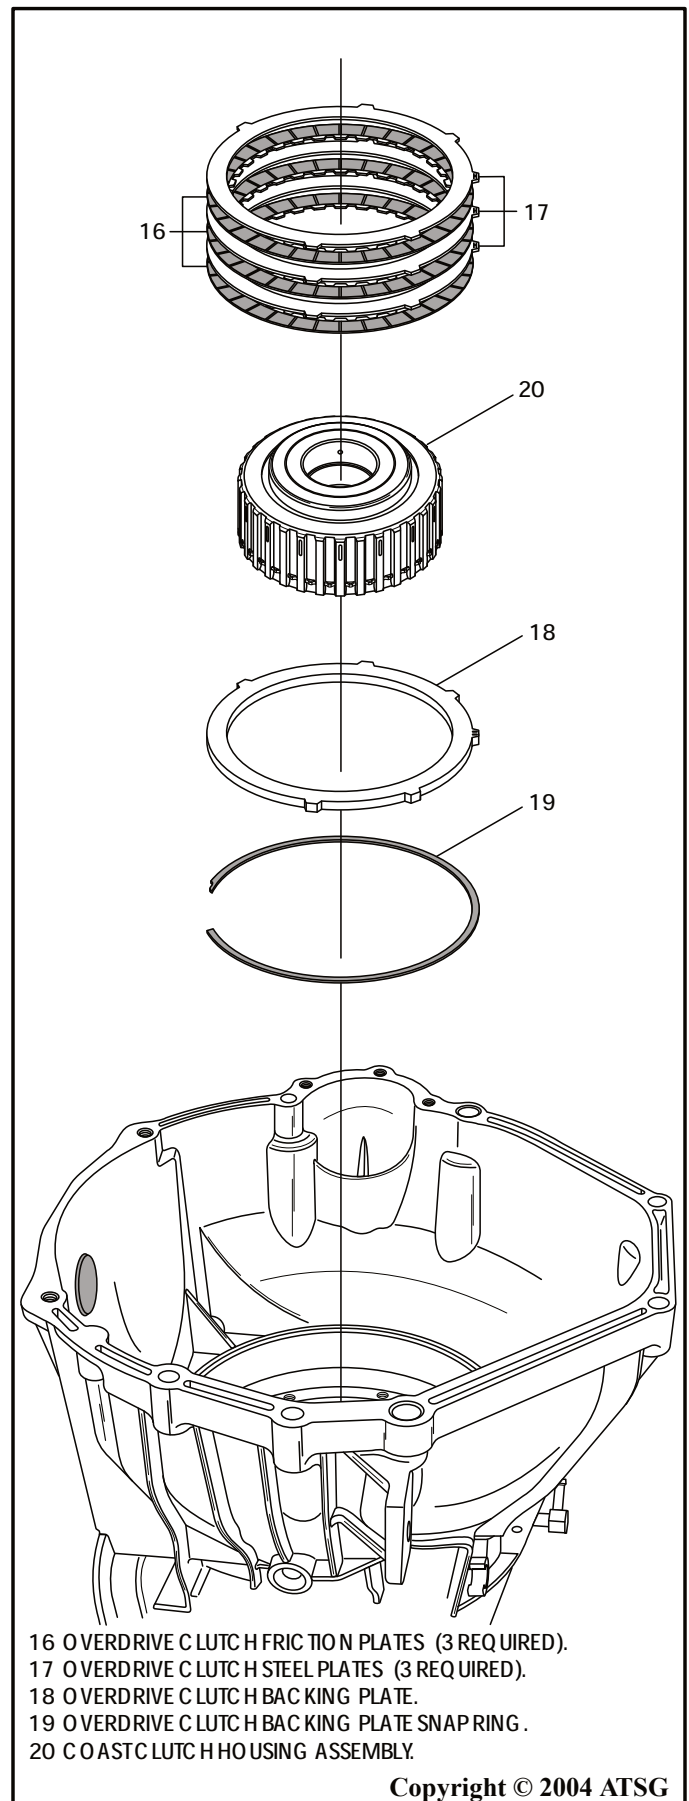

Figure 40
29. Remove the overdrive steel and lined plates, as shown in Figure 40.
30. Remove the coast clutch housing assembly, by lifting straight up, as shown in Figure 40.
32. Remove the overdrive clutch backing plate, as shown in Figure 40.
33. Remove the overdrive clutch backing plate snap ring from case groove and remove from transmission, as shown in Figure 40.